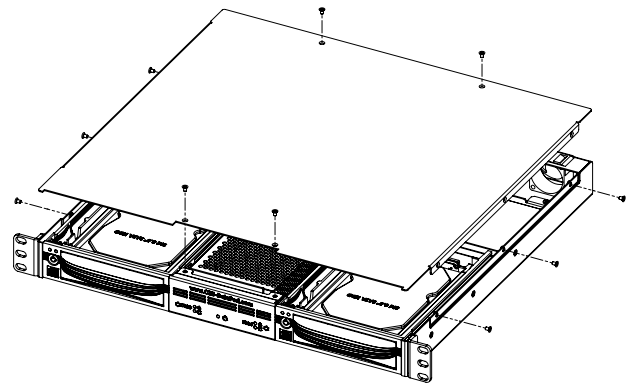

Figure 1: Removing the Cover
2. Remove the ten cover screws securing the DataPort 1U Enclosure cover. See figure 1.